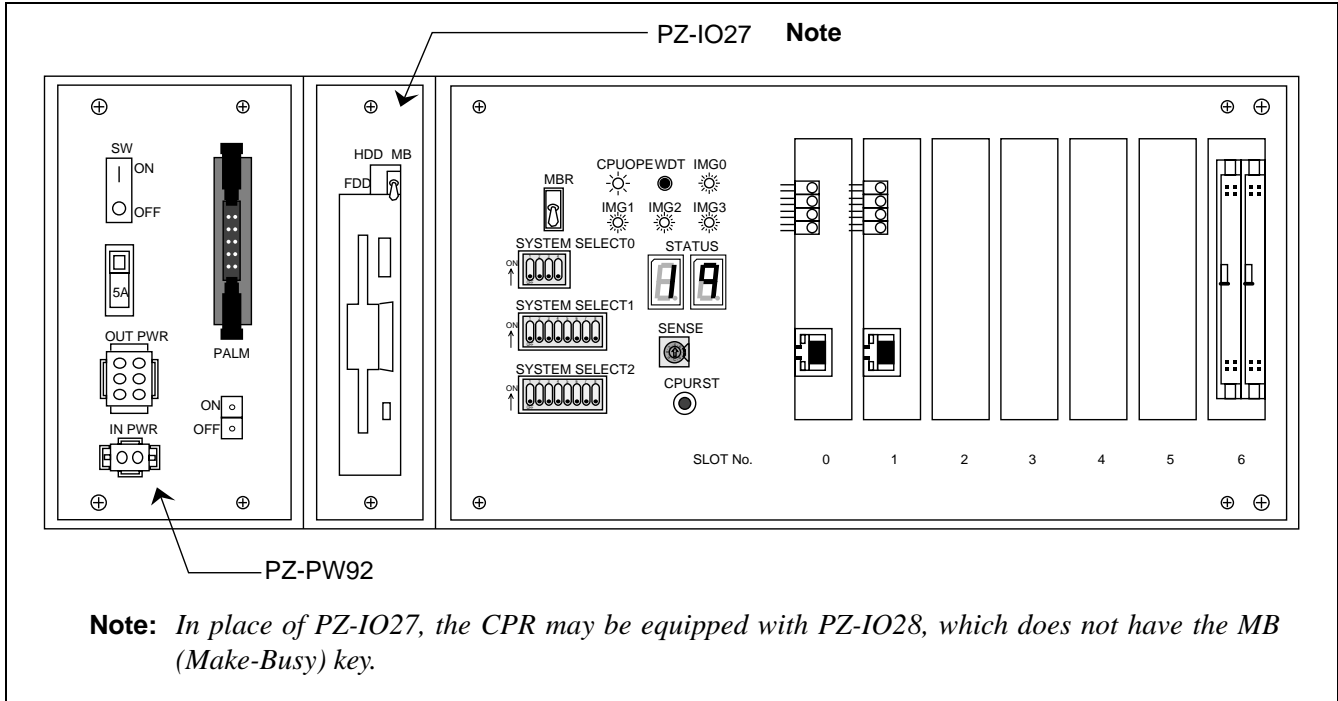
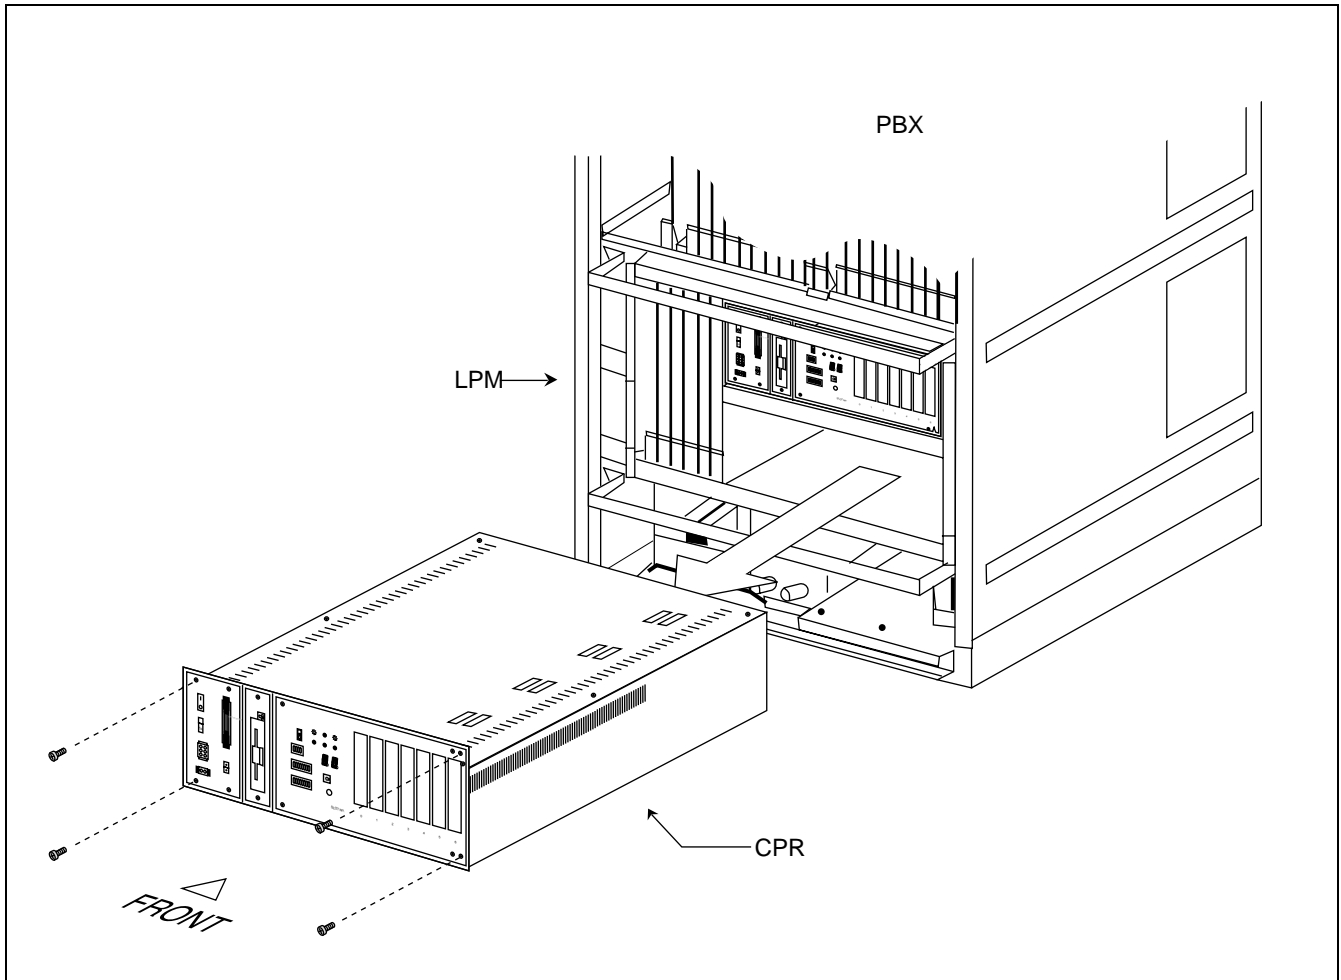

Figure 4-2 CPR Face Layout
Figure 4-3 How to Replace the CPU
This section explains how to replace the Control Processor Rack (CPR). Before starting the procedures, make a backup copy of the main data, such as office data, Call Forwarding (CF) data and Speed Calling (SPD) data, on to the hard disk of the HFC. Figure 4-2 shows the front view of the CPR. Operate the related keys and connectors to replace the CPU with a new one. Using a Phillips screwdriver, remove the four screws and extract the CPR with care, as shown in Figure 4-3.
- Refer to Figure 4-2 for CPR face layout.
- Refer to Figure 4-3 to replace the CPU.